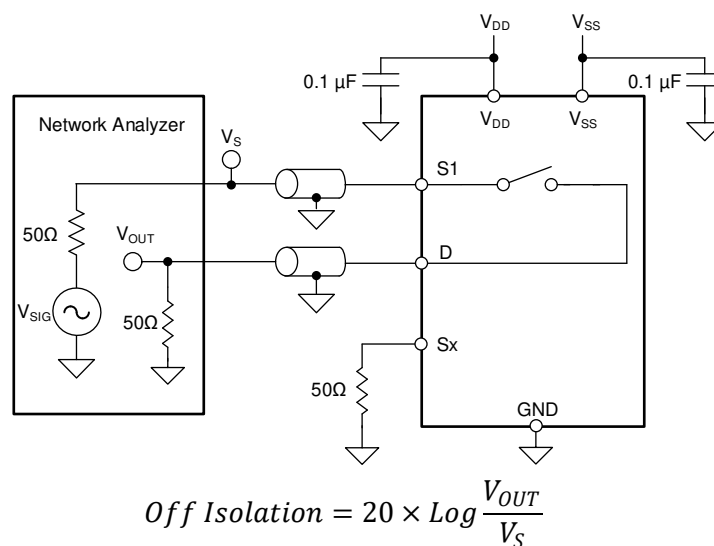

图 8-12. Off Isolation Measurement Setup
Off isolation is defined as the ratio of the signal at the drain pin (D) of the device when a signal is applied to the source pin (S_x) of an off-channel. 图 8-12 shows the setup used to measure, and the equation used to calculate off isolation.